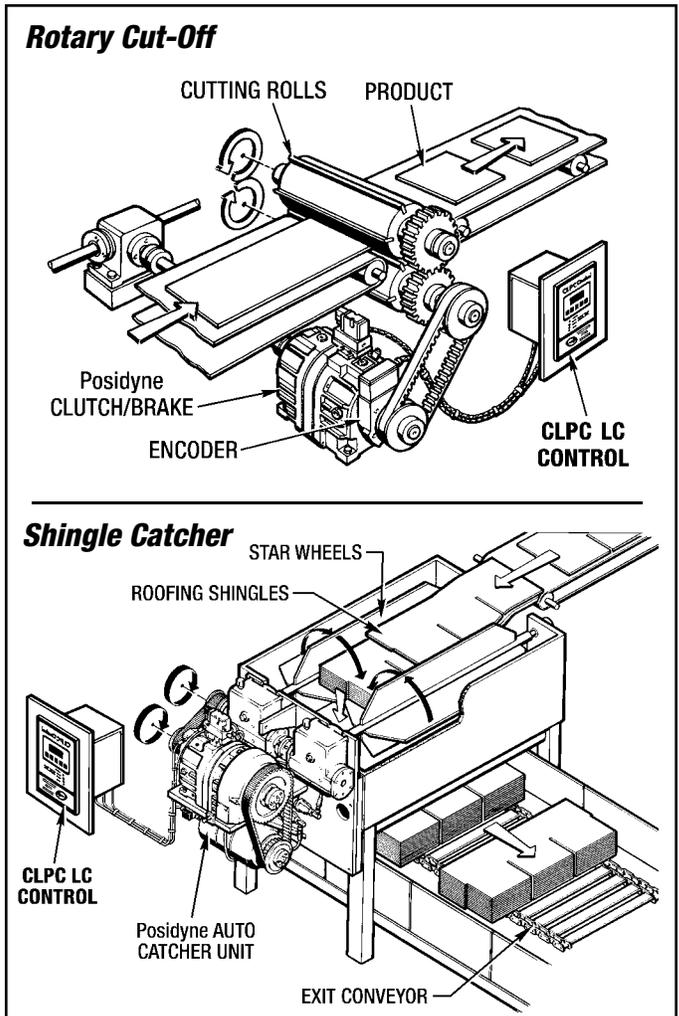

Figure 1.1 - Single Revolution Applications
A. Single Revolution - Two typical applications for a single revolution operation would be a Rotary Cut-off and a Shingle Catcher. (See Figure 1.1)